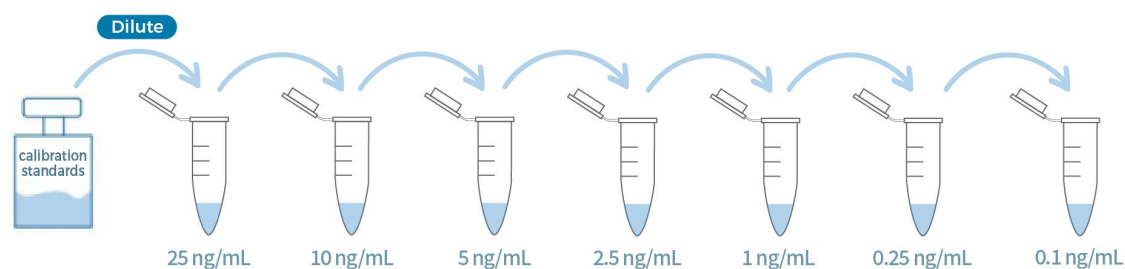

Figure 2. Graphic scheme of SMNE Calibration standard solutions
- Prepare SMNE Calibration standard solutions as indicated in Fig 2 and Table 3.